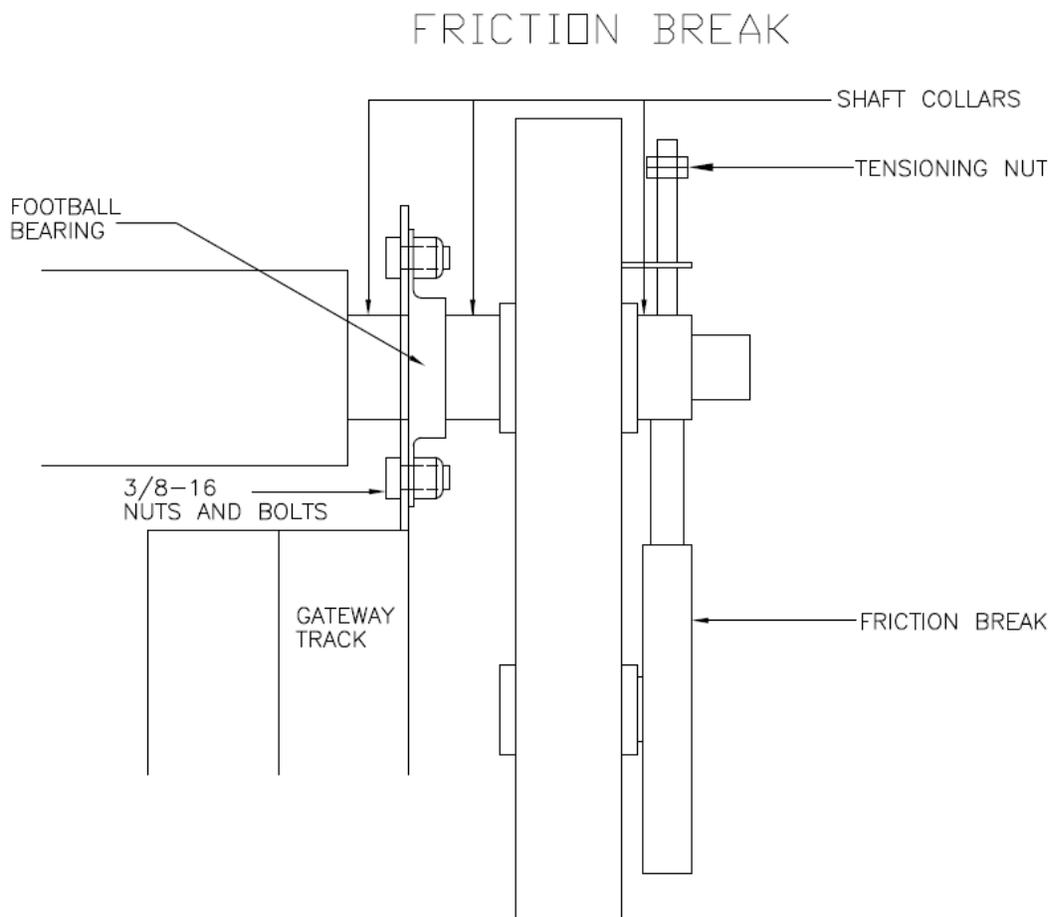

FIGURE 1
1. To install chain loosen Tensioning nuts then push down and hold Tension shaft. (See Fig. 1). While Tension shaft is held down run the hand chain up through bottom front of the Chain Hoist by turning the break wheel counterclockwise. (If you do not do this before attaching the assembly to the shaft it will be difficult to install the chain.) Wait to connect the ends of the chain until the hoist is attached to the door and wall.
4. Once the Chain Hoist assembly is attached the tensioning nut must be adjusted. **(SEE FIG. 1)** The tensioning nut controls how quick and easy it is to open the door. Compression of the spring causes the friction break to be tighter. When the Break is tensioned properly it should open and close smoothly and be able to be easily controlled.